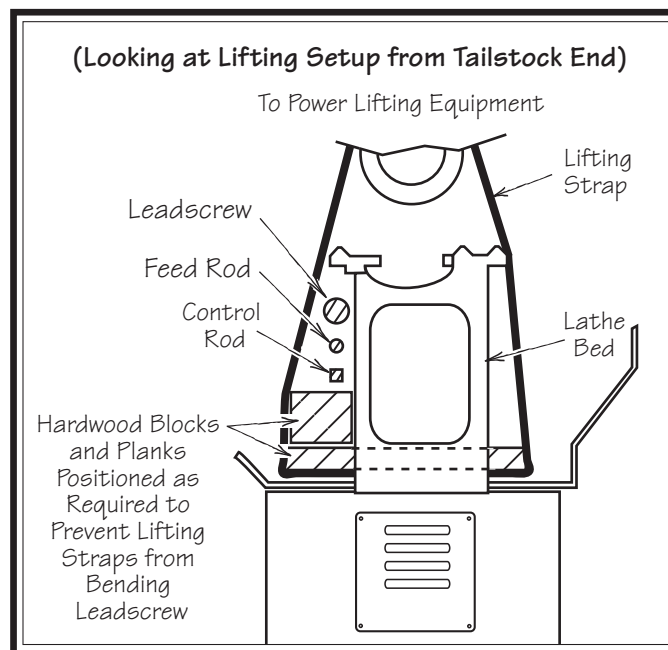

Figure 12. Lifting setup to keep straps from bending leadscrew or rods.
5. Position hardwood blocking under each end of the bed, as shown in **Figure 12**. This will keep the lifting straps away from the leadscrew, feed rod, and spindle rod to prevent bending them during lifting.